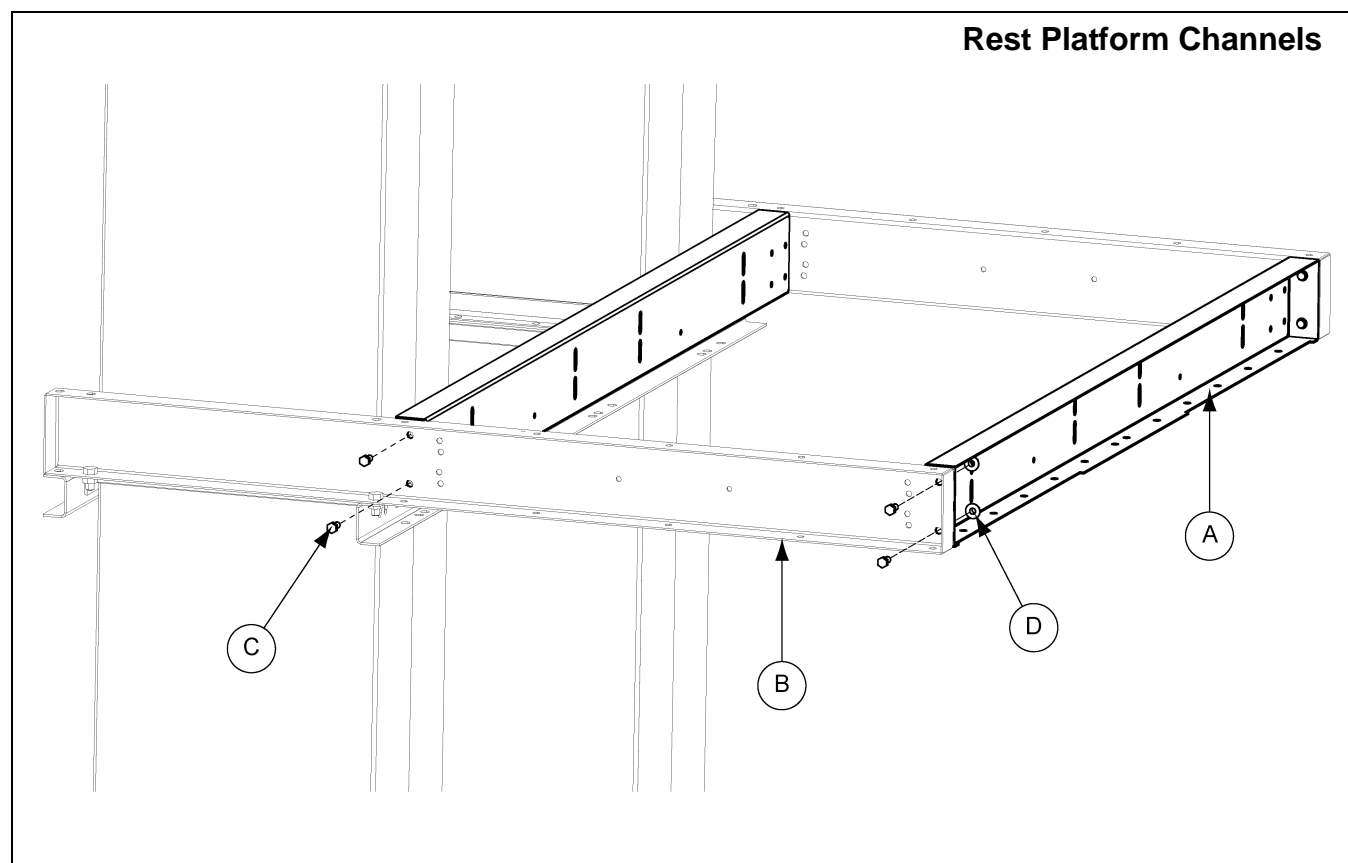

Figure 7F Rest Platform Cross Channel to Rest Platform Mounting Channels
1. Place the rest platform cross channels (RP1636CCX) (A) between the rest platform mounting channels (RP1636MCX) (B) and connect those using 3/8" x 3/4" hex bolts (S-7105) (C). (See Figure 7F.)